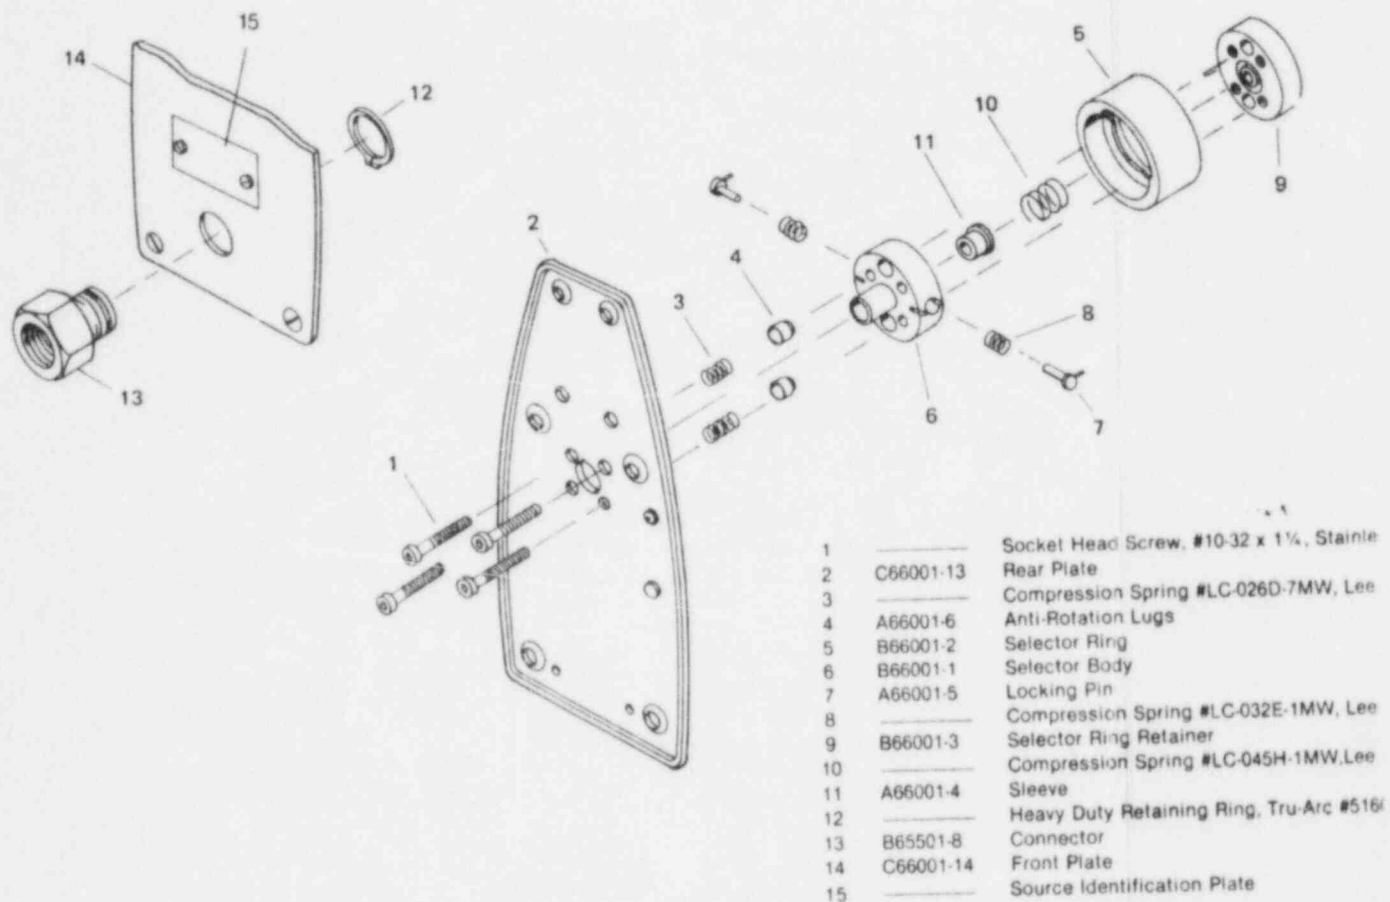

Figure 1A - Rear End Plate and Control Unit Connector—Exploded View
- 6) Disassemble the control unit connector assembly, referring to Figure 1A at the end of Part D for order of removal. There are several spring loaded parts in the connector assembly, so care should be taken that these parts are not lost or damaged.